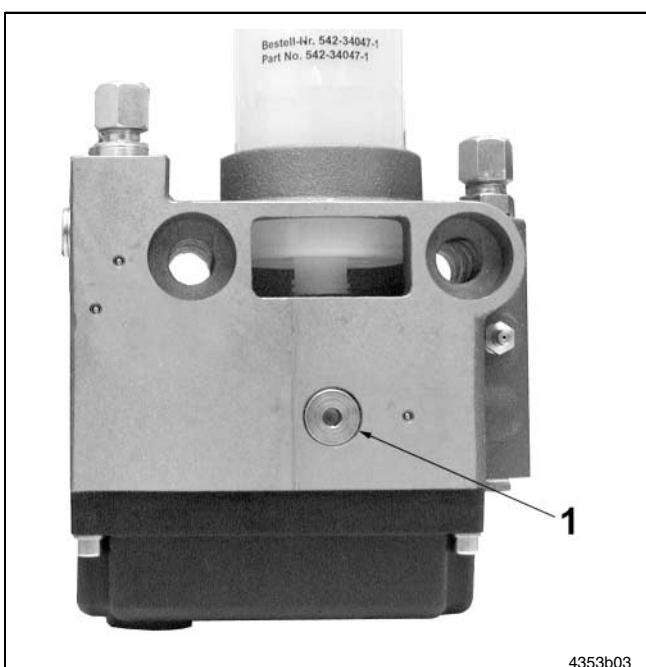

Fig. 8 Insert cartridge into the lubrication pump HTL 101
- ➌ Insert the cartridge in the bore hole by lightly pressing and screw it into the housing (described as in Fig. 8) hand-tightly
- Remove closure plug (fig. 8, pos. 1)
If afterwards the pump does not dispense lubricant immediately, vent the housing (see description, fig. 8 "vent housing").